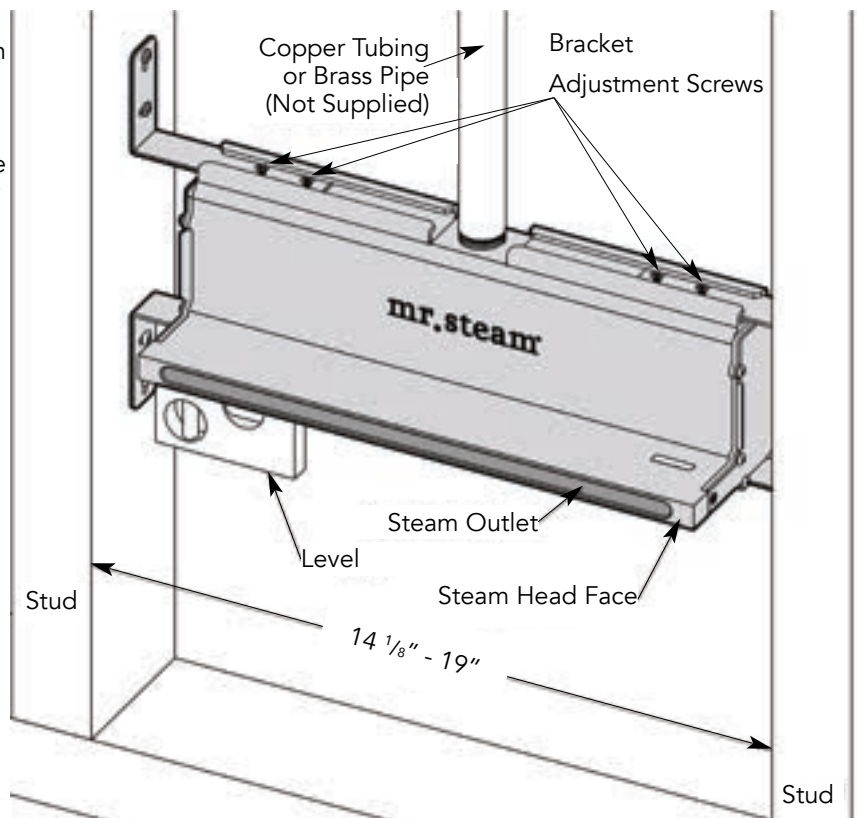

Figure 3
**CAUTION** Only install the linear steam head in a horizontal orientation as shown in fig 3. Failure to follow these instructions may result in a leak within the wall cavity and cause problems associated with leaks, moisture and property damage from leaks. Failure to follow these instructions may result in a hazardous condition, scalding or personal injury.
STEP 3. Position the steam head between 2 properly spaced studs. Extend the adjustable brackets as required so the steam head fits snugly between two studs. Use a level to ensure the steam head is level (see Fig. 3). Tighten the eight bracket adjustment screws (supplied).